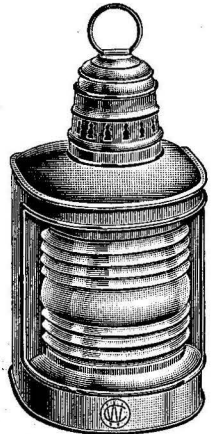

Fig. 62
**BOW OR MASTHEAD LIGHTS (FIG. 62)**